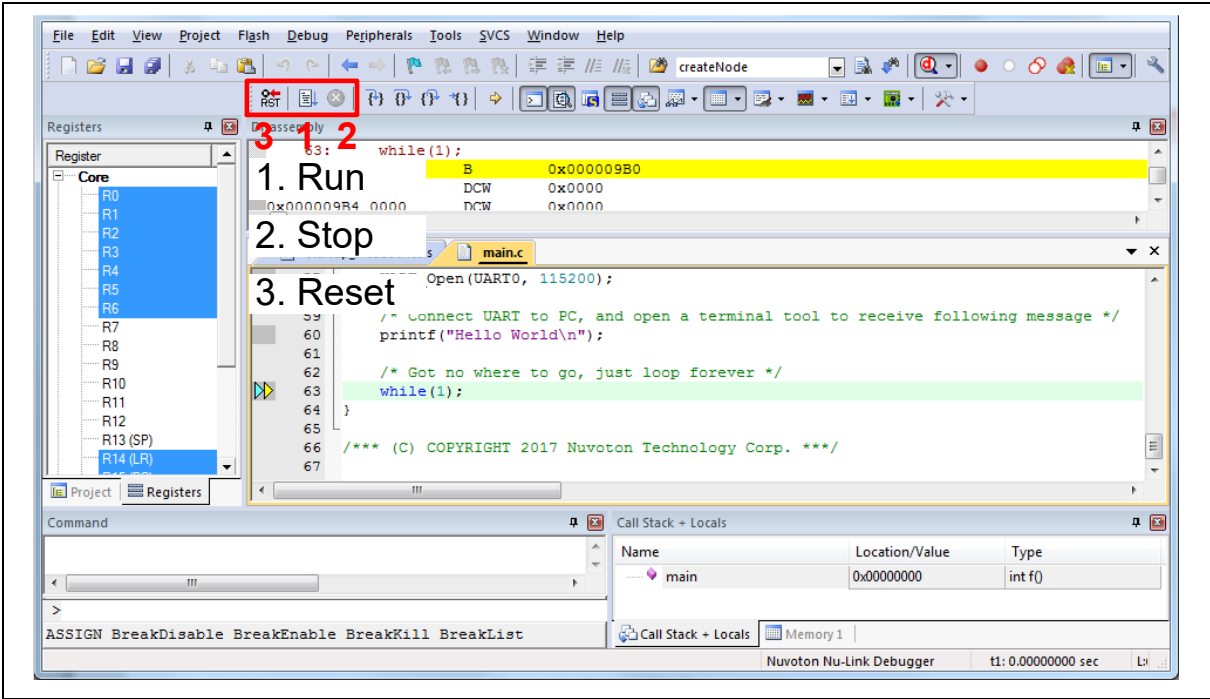
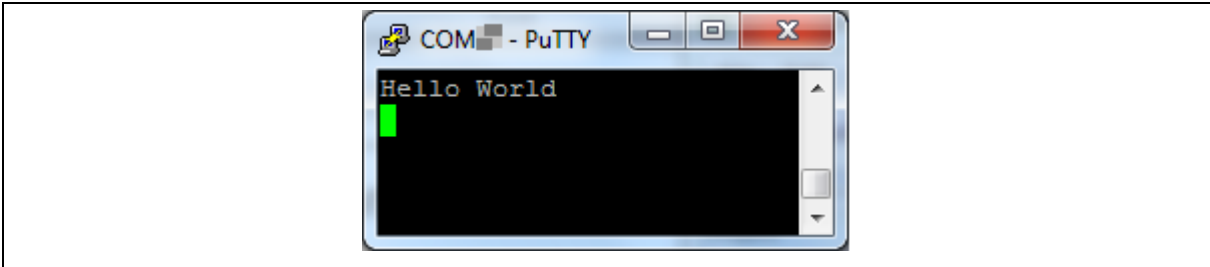

Figure 4-13 Keil MDK Debug Mode
Figure 4-14 Debug Message on Serial Port Terminal Windows
4. Figure 4-13 shows the debug mode under Keil MDK. Click **"Run"** and the debug message will be printed out as shown in Figure 4-14. User can debug the project under debug mode by checking source code, assembly language, peripherals' registers, and setting breakpoint, step run, value